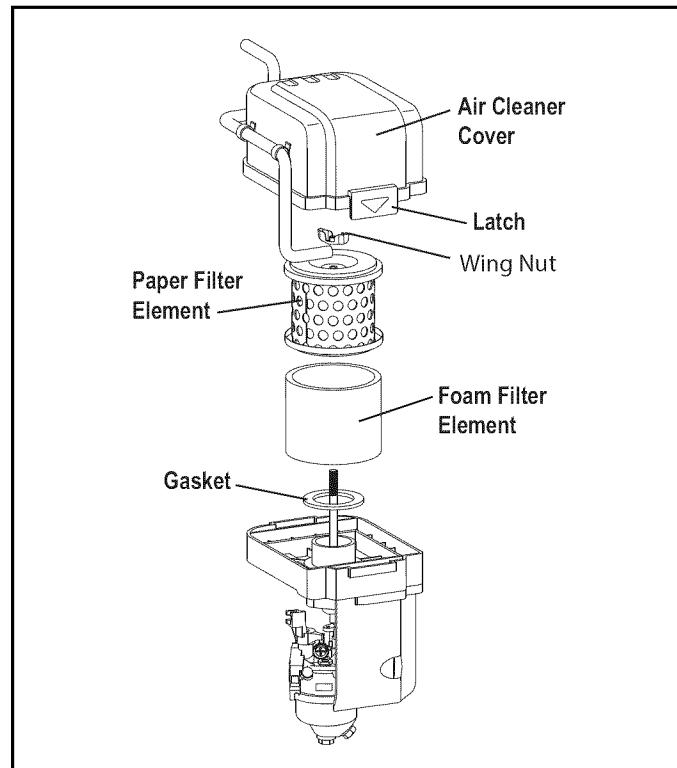

Figure 6-8. Service the Air Cleaner
- Pull on air cleaner cover latch and remove cover (Figure 6-8).